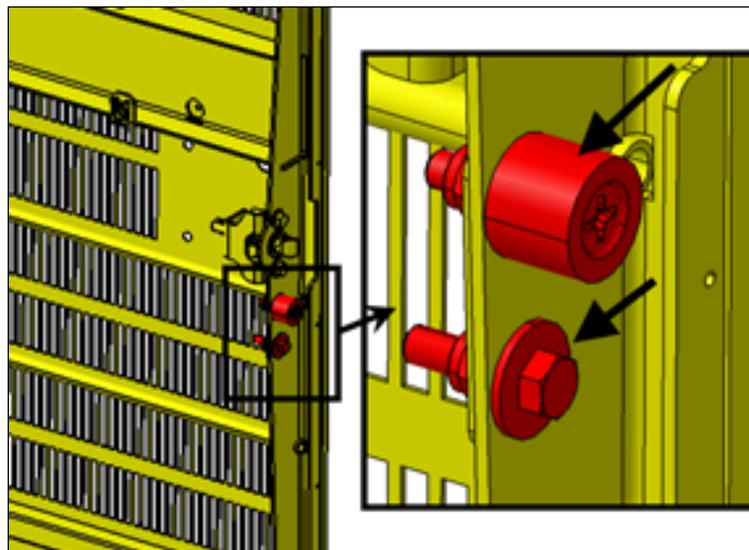

FIGURE 11
10. Check that the two items identified with arrows are snug but not tight (FIGURE 11).